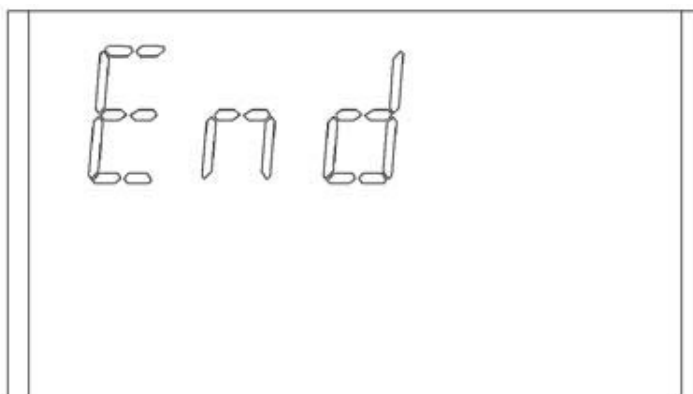

Fig. 26 Calibration End Display
- (11) Turn ON the gas flow by turning the flow controller knob.
- (12) After the 30 second countdown:
- Once the gas value on the display is stable, the alternating display stops. If the calibration is successful, the display will show END for approximately two seconds. (Fig. 26).
- (13) Turn OFF the gas flow by turning the knob on the flow controller.